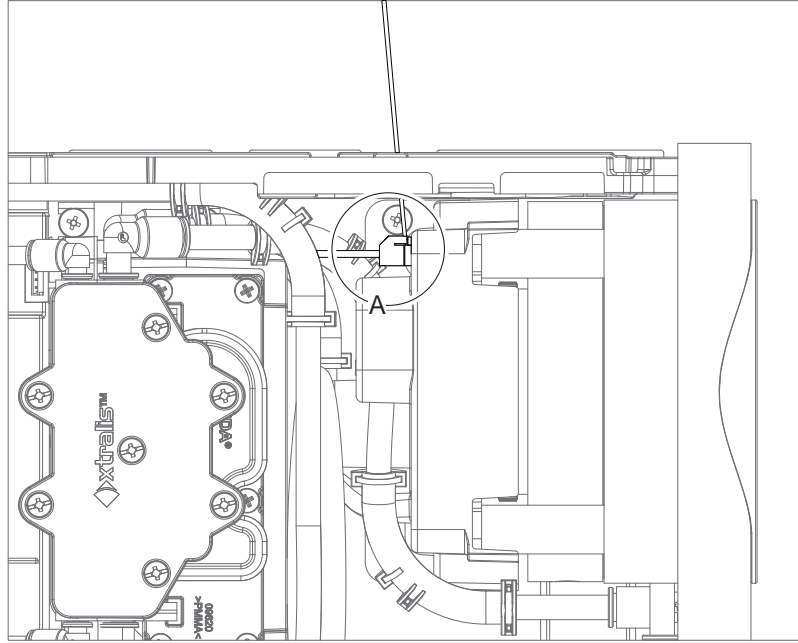

Figure 7-13: Remove power cable
7. Remove the pump power cable from the rotary valve PCA. Use a screwdriver to press the lever on the side of the white connector as shown (A) (Figure 7-13).